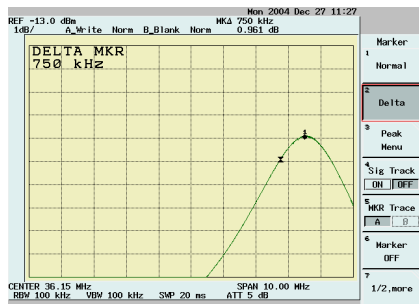

Fig. 1
- ☐ Calibrate **C20** and **L7** to tune the cell of I.C.P.M. to the frequency of the video carrier summing about 750kHz (Fig.1) with **JP4** on and **JP3** and **JP5** off.